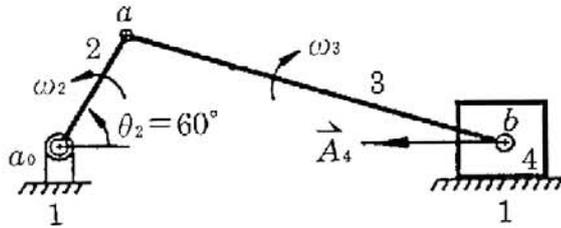

Fig. 3
3. Fig. 3 shows a slider crank mechanism with dimensions  $a_0a=10\text{cm}$ ,  $ab=30\text{cm}$ ,  $\theta_2 = 60^\circ$ . If the crank rotates at a constant angular velocity of  $\omega_2 = 100 \text{ rad/sec}$  (counterclockwise). (25%)